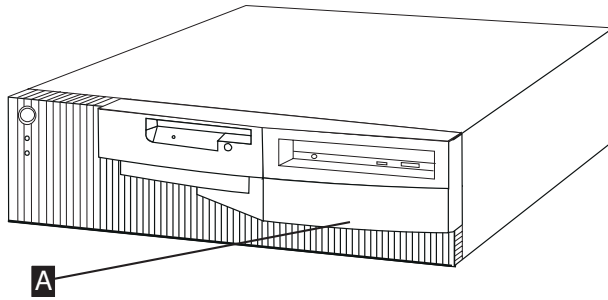

Figure 1-2. Installing Label on the Front Side of the Service Processor
3. Using label (PN 0782966), **identify** your Service Processor-A or Service Processor-B by sticking the appropriate label **A** on the front side of the unit (refer to Figure 1-2 on page 1-10).